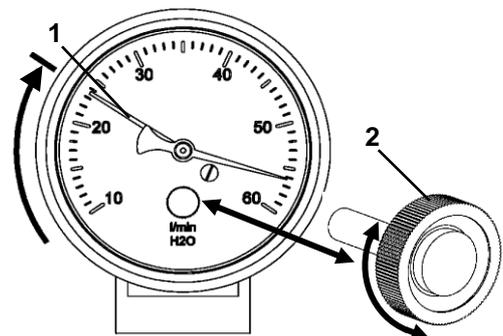

Figure 9: TZ1 setting
With device design TZ1 with microswitch (Fig. 9) the adjustment occurs through the supplied adjusting knurled screw pos. 2. By rotating the screw the drag indicator pos. 1 can be adjusted to the desired switching point. The displayed value corresponds to a switching point in the presence of a falling flow rate.